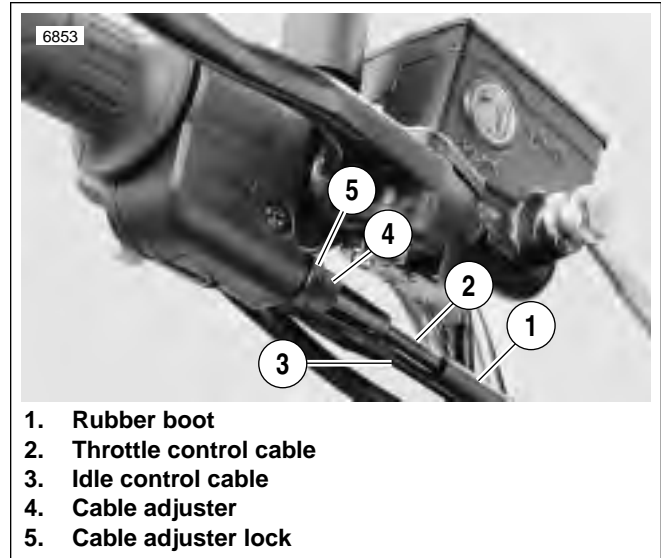

Figure 2-62. Throttle Control Cables
1. See Figure 2-62. Slide rubber boot off the cable adjusters. Loosen cable adjuster lock on each adjuster.
2. Turn adjusters (4) in direction which will shorten cable housings to minimum length providing freeplay in both cables.